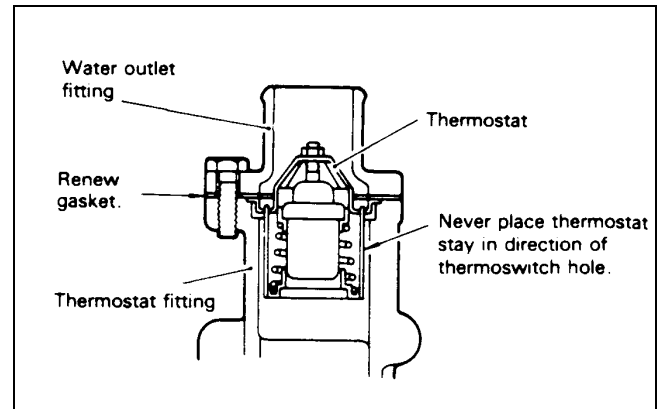

Figure 38
3. Remove the water outlet fitting and gasket (Fig. 38).